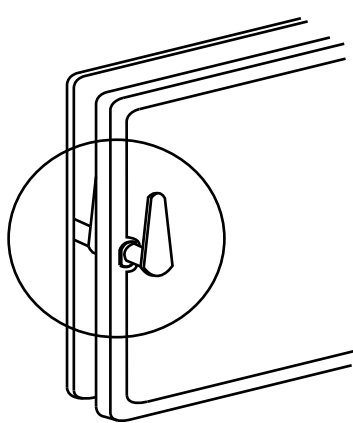

Fig. 12
2. Turn handle clockwise to the 12 o'clock position, pull the door open until you engage the second step (Fig. 12).